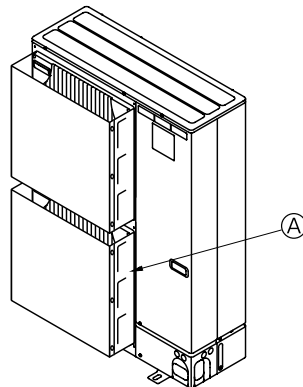

Fig. 2-2
- Install an optional air guide if the unit is installed in a location where strong winds from a typhoon, etc. may directly enter the air outlet. (Fig. 2-2)